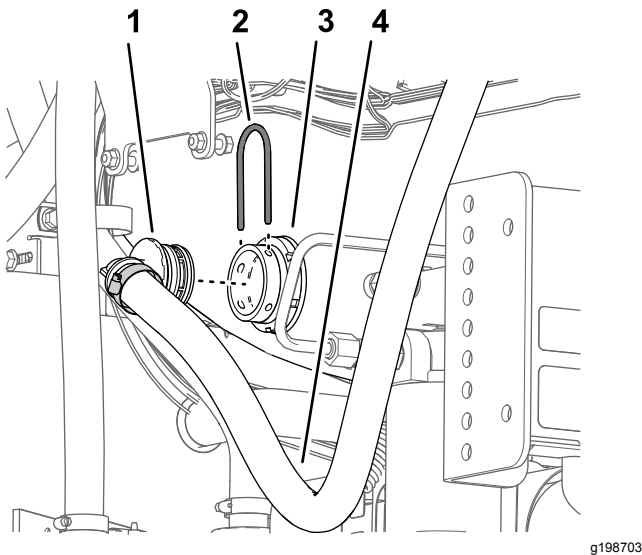

Figure 63
2. Remove the large retainer that secures the 90° barbed fitting at the lower end of the bypass hose to the bulkhead fitting of the sprayer tank (Figure 63).